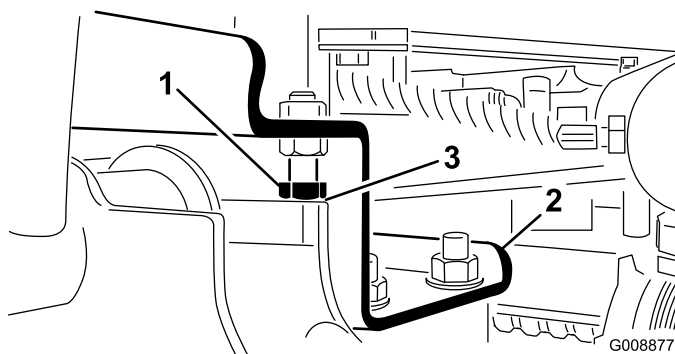

Figure 11
A. Back off the stop bolts (Figure 11).
2. Check to make sure that the clearance between each lift arm and stop bolt is 0.005 to 0.040 inches (0.13 to 1.02 mm) (Figure 11). If the clearance is not in this range, adjust the stop bolts to attain clearance.